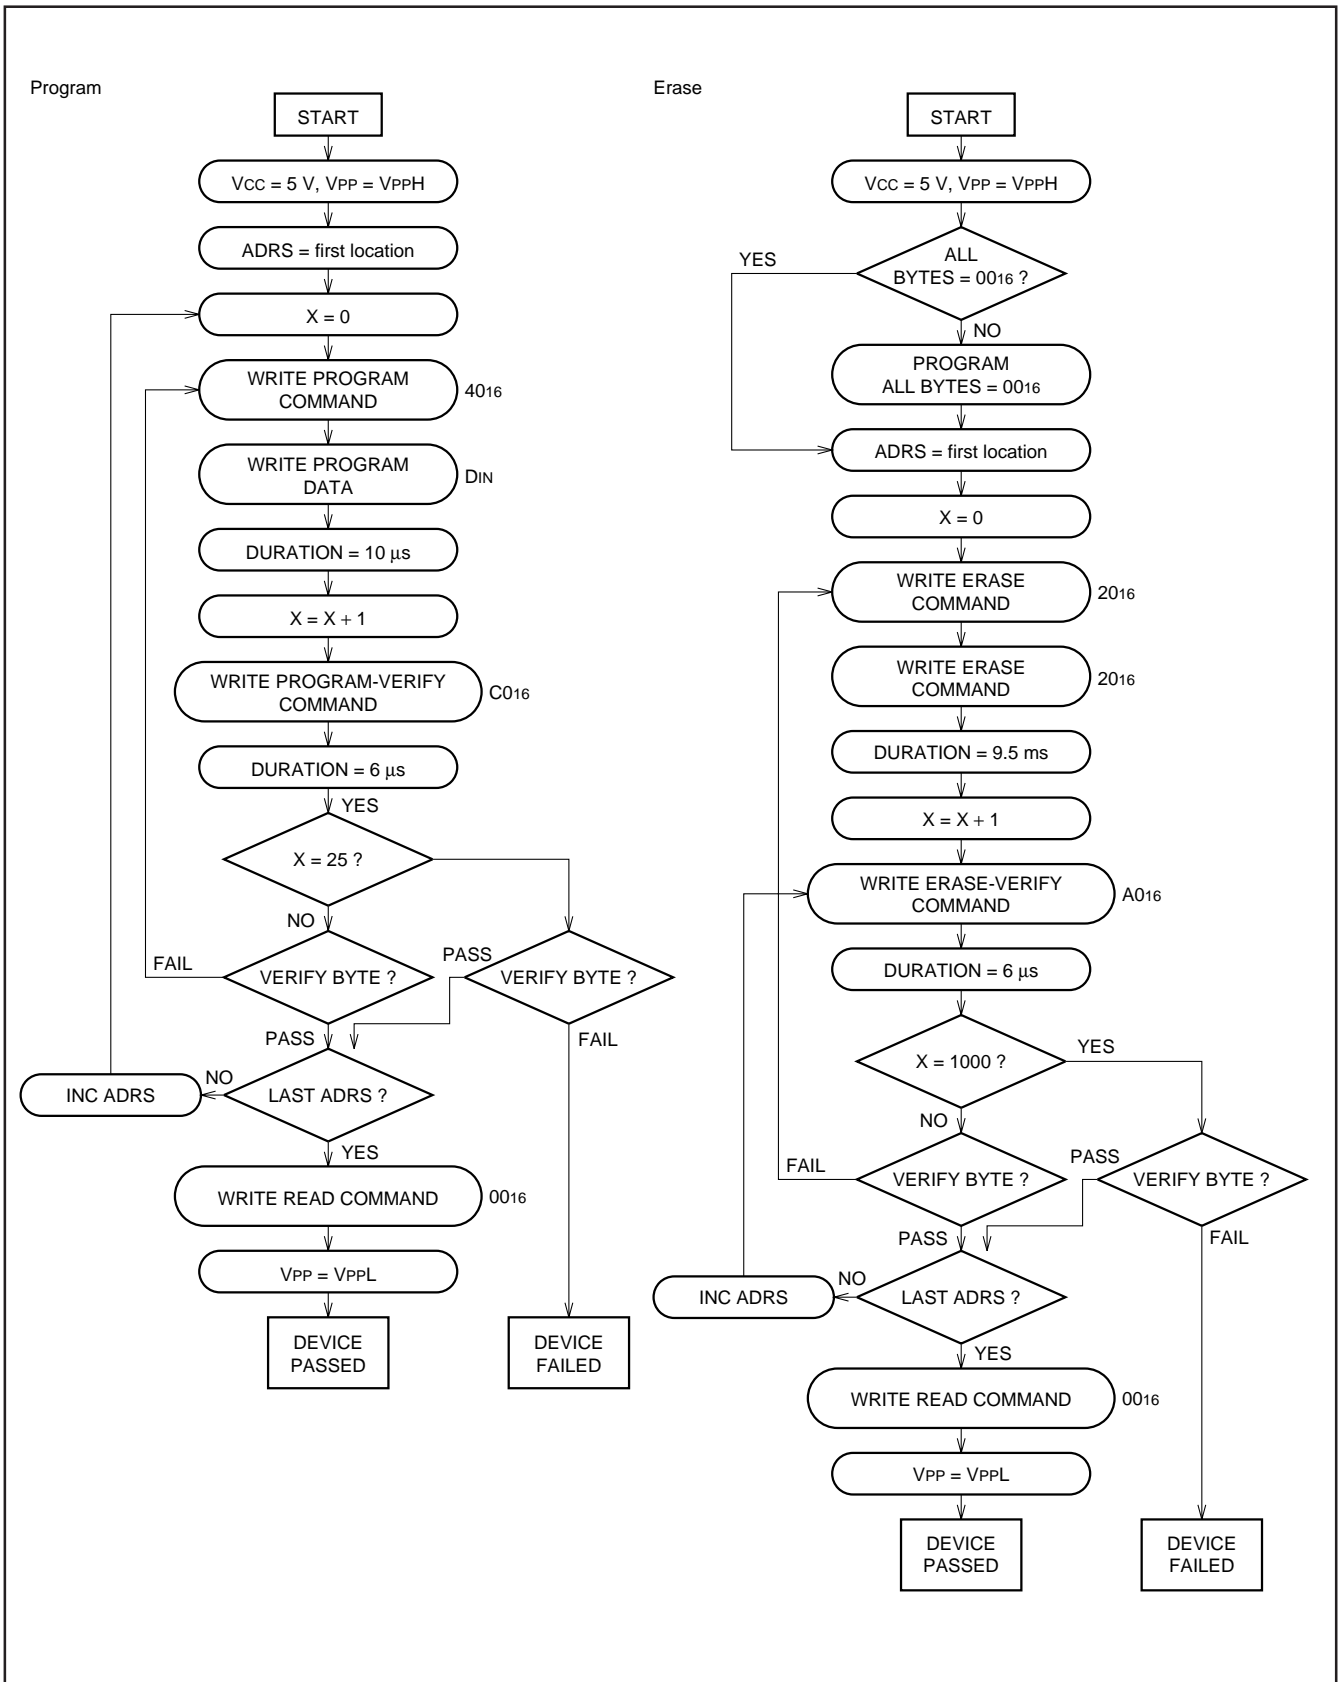

Fig. 71 Programming/Erasing algorithm flow chart
**Note:** A programming operation is not completed by executing the program command once. Always be sure to execute a program verify command after executing the program command. When the failure is found in this verification, the user must repeatedly execute the program command until the pass. Refer to Figure 71 for the programming flowchart.
**Note:** An erase operation is not completed by executing the erase command once. Always be sure to execute an erase verify command after executing the erase command. When the failure is found in this verification, the user must repeatedly execute the erase command until the pass. Refer to Figure 71 for the erase flowchart.
**Note :** A programming operation is not completed by executing the program command once. Always be sure to execute a program verify command after executing the program command. When the failure is found in the verification, the user must repeatedly execute the program command until the pass in the verification. Refer to Figure 71 for the programming flowchart.